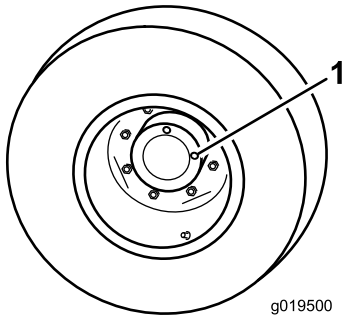

Figure 17
1. With machine on level surface, position the wheel so 1 check plug is at the 12 o'clock position and the other is at 3 o'clock position (Figure 17).
1. Check/drain plug (2)
2. Remove the plug at the 3 o'clock position (Figure 17).